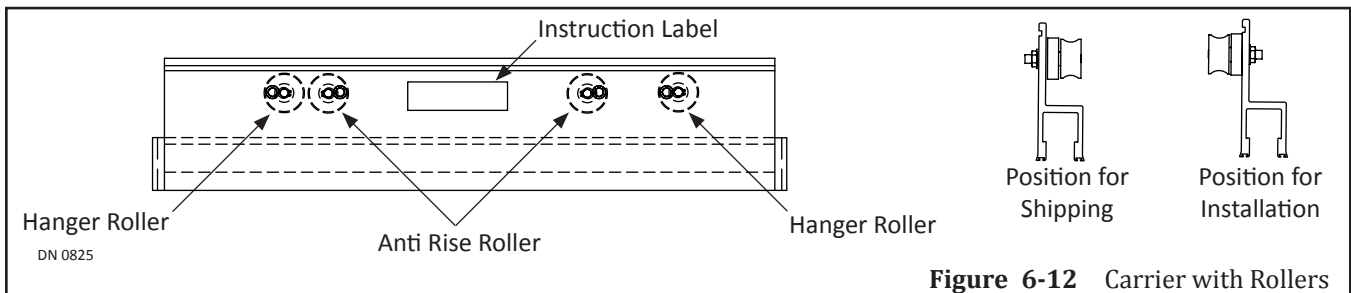

Figure 6-12 Carrier with Rollers
2. Remove each Roller by loosening the nut on with a 1/2" open end Wrench. Please see Figure 6-12.
- a. Lightly tighten Rollers in the positions seen in Figure 6-12.